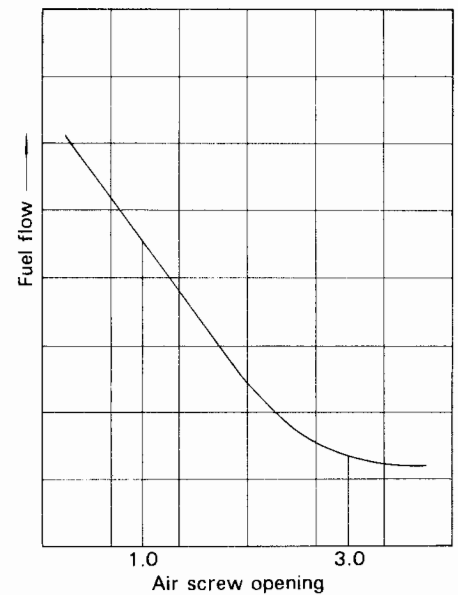

Fig. 16
(1) If there is a certain range in the opening of the air screw where fast engine revolution can be obtained, (for instance, the number of revolutions does not change in the range of 1-1/2 to 2.0 turn), for better performance you should select approximately 1-1/2 turns.
(2) To determine the "fully closed" position of the air screw, turn the air screw slightly. *Excessive tightening of the air screw would damage the seat.* The position where the air screw comes to a stop should be considered the "fully closed" position. The maximum number of turns in the opening of the air screw *must be limited to 3.0*. If the air screw is opened over 3.0 turns, the spring will not work and the air screw can come off during operation of the vehicle. Fig. 16 shows the fuel flow curve in relation to the opening of the air screw.